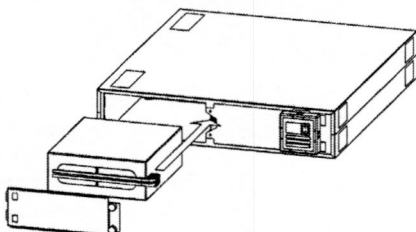

Fig. 30: Replacing the Battery
5. Slide new battery into the UPS and reconnect the battery connector (fig. 30). The battery connector is polarized and will only fit one way. Make sure it is completely installed.